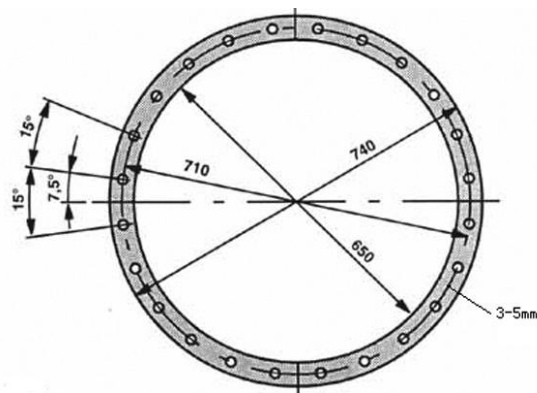

Figure 8
The on-load tap-changer head must be mounted on the tank cover with a mounting flange (see appendix 7) and an oil-resistant sealing gasket (figure 8).
- (1) Place the diverter switch housing on the water platform.
- (2) Wipe the sealing surface of the switch head and mounting flange.
- (3) Place an oil-resistant seal on the mounting flange of the transformer cover (Figure 8).
- (4) Lift the diverter switch oil compartment and carefully drop it into the opening of the mounting flange.